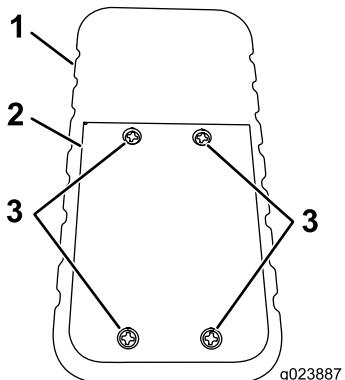

Figure 5
1. Loosen the four screws securing the battery cover (Figure 5).